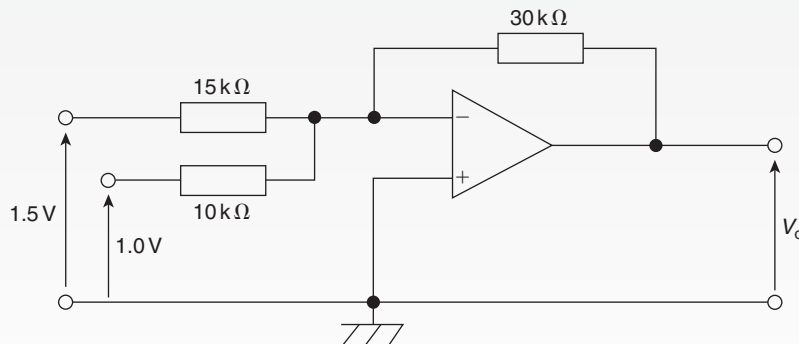

Figure RT5.1
- The power taken by a series inductive circuit when connected to a 100 V, 100 Hz supply is 250 W and the current is 5 A. Calculate (a) the resistance, (b) the impedance, (c) the reactance, (d) the power factor, and (e) the phase angle between voltage and current. (9)
- A coil of resistance $20\ \Omega$ and inductance 200 mH is connected in parallel with a $4\ \mu\text{F}$ capacitor across a 50 V, variable frequency supply. Calculate (a) the resonant frequency, (b) the dynamic resistance, (c) the current at resonance, and (d) the Q-factor at resonance. (10)
- A series circuit comprises a coil of resistance $30\ \Omega$ and inductance 50 mH, and a 2500 pF capacitor. Determine the Q-factor of the circuit at resonance. (4)
- The winding of an electromagnet has an inductance of 110 mH and a resistance of $5.5\ \Omega$. When it is connected to a 110 V, d.c. supply, calculate (a) the steady-state value of current flowing in the winding, (b) the time constant of the circuit, (c) the value of the induced e.m.f. after 0.01 s, (d) the time for the current to rise to 75 per cent of its final value, and (e) the value of the current after 0.02 s. (11)
- A single-phase motor takes 30 A at a power factor of 0.65 lagging from a 300 V, 50 Hz supply. Calculate (a) the current taken by a capacitor connected in parallel with the motor to correct the power factor to unity, and (b) the value of the supply current after power factor correction. (7)
- For the summing operational amplifier shown in Fig. RT5.1, determine the value of the output voltage, V_0 (3)